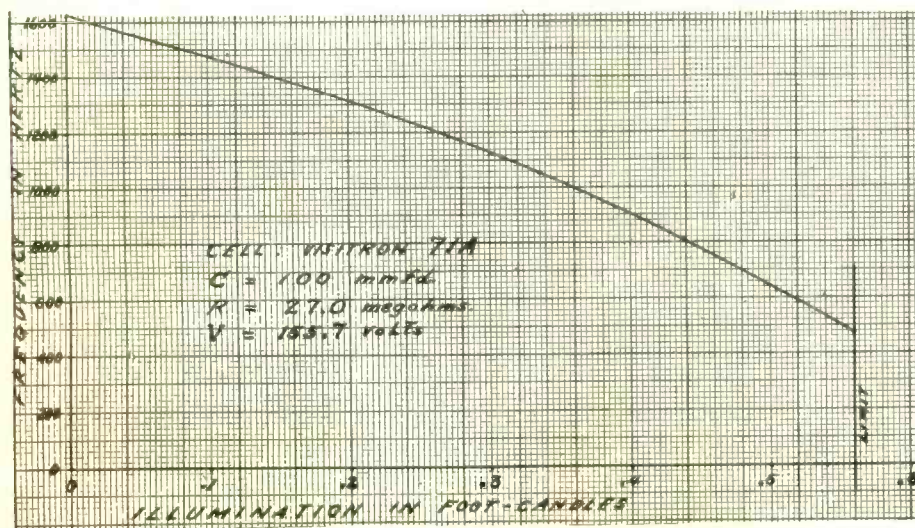

FIG. 3
(2)—The frequency of oscillation decreases with an increase in the radiation falling on the photo-electric cell. The form of this characteristic is dependent upon the type of photo-electric cell being used. With photo-bolic. With selenium cells the relation is apparently parabolic. This characteristic, for the apparatus studied, is given in Fig. 3. The slight curvature of the characteristic should be noted.